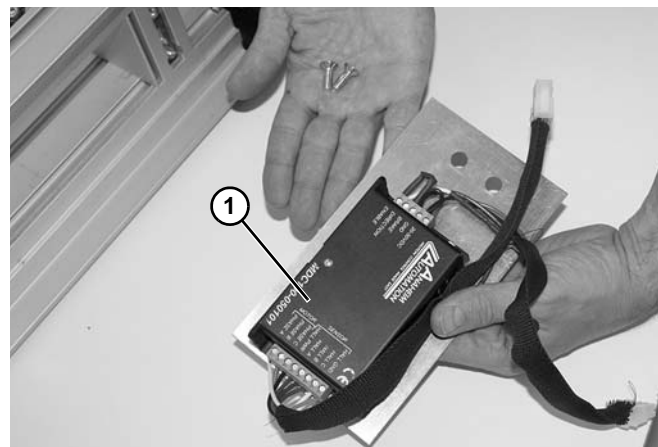

Figure 156
- Remove control unit (Figure 156, item 1) from conveyor frame.